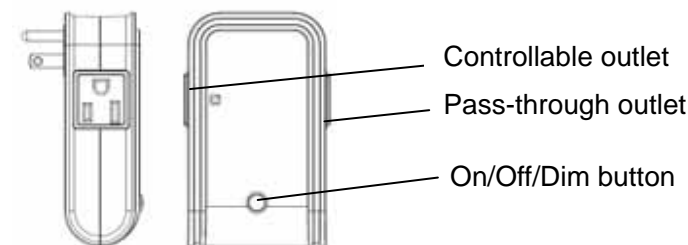

Fig. 1
1. In the front cover, there is an On/Off/Dim button with LED indicator (Fig. 1).